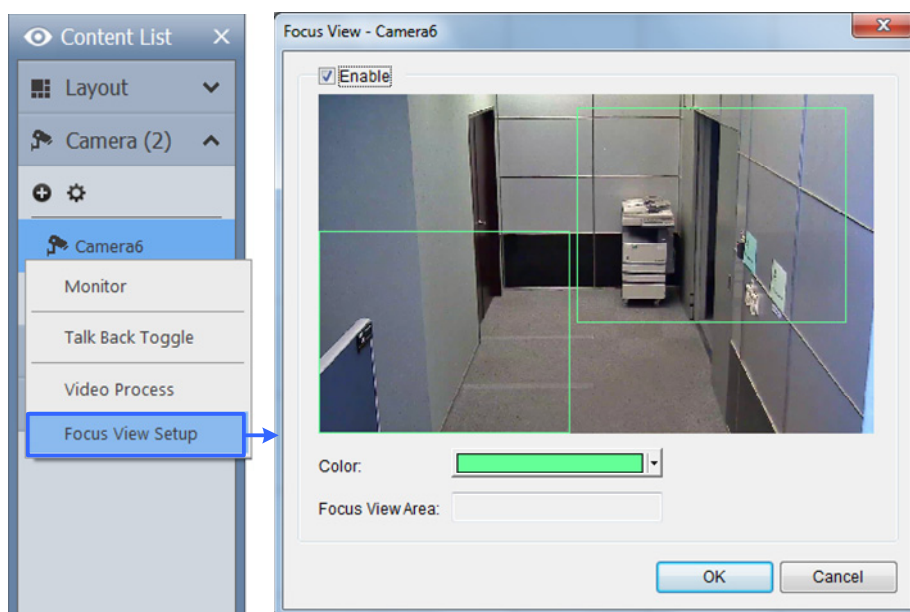

Figure 1-30
1. Create and group several layout templates under the Content List (Figure 1-30).